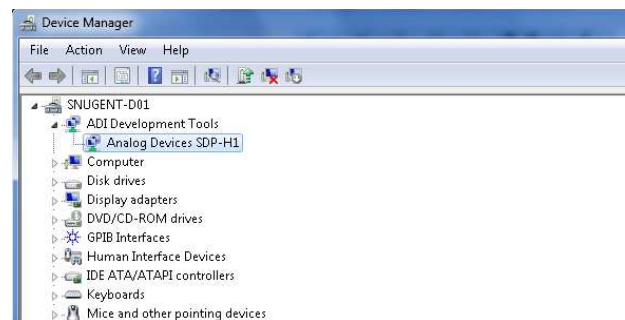

Figure 12. Device Manager:
- b. Under **ADI Development Tools**, **Analog Devices** **SDP-H1** should appear (see Figure 12), indicating that the EVAL-SDP-CH1Z driver software is installed and that the board is connected to the PC correctly.